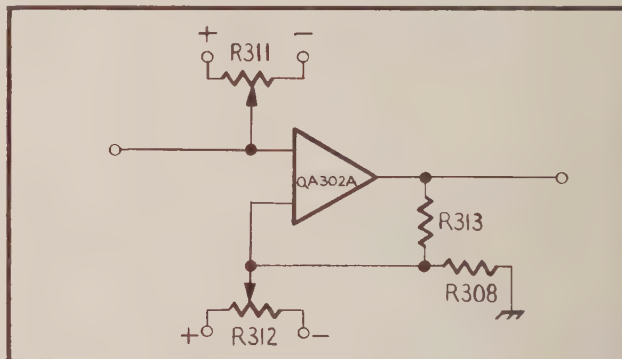

FIGURE 26. DC Offset Adjustment.
a. **Adjustment "1" (R312).** This control adjusts the d-c voltage offset of QA302A. Resistor R312 is connected to the non-inverting input of stage "E" as shown in Figure 26.
b. **Adjustment "2" (R311).** This control adjusts the d-c current offset of QA302A. Resistor R311 is connected to the inverting input of stage "E" as shown in Figure 26.